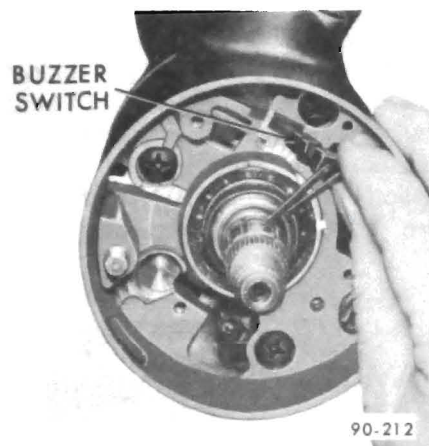

Figure 90-135 - Removing Buzzer Switch
13. The buzzer switch can be pulled straight out of the housing. (This may be done without removing the lock cylinder. However, the lock cylinder must be in the "Run" position.) See Figure 90-135.